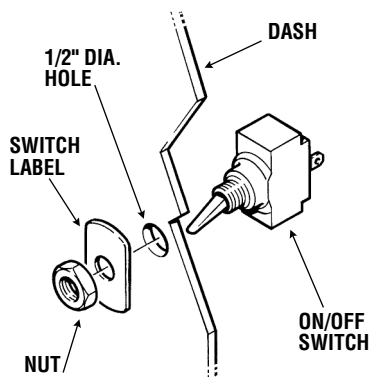

Figure 3-21 ON/OFF Switch Assembly
2. Drill a 1/2" diameter hole through the dash for the switch. Make sure you have clearance behind the dash for the switch wires and connections. Install the switch as per the diagram. (Figure 3-21)